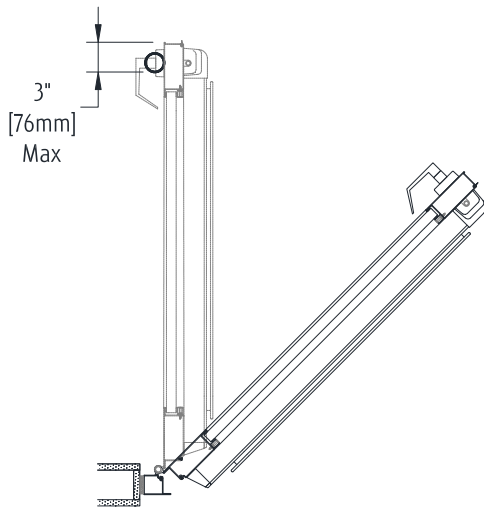

Figure 13 - PROPER Door Stop Placement
- Locate door stop no more than 3" (76 mm) from edge of door leaf (Figure 13).